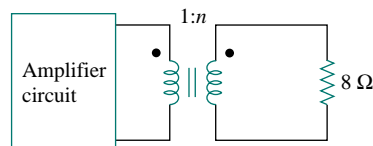

Figure 13.105 For Prob. 13.38.
- 13.38** A transformer is used to match an amplifier with an 8-Ω load as shown in Fig. 13.105. The Thevenin equivalent of the amplifier is: $V_{Th} = 10$ V, $Z_{Th} = 128$ Ω.